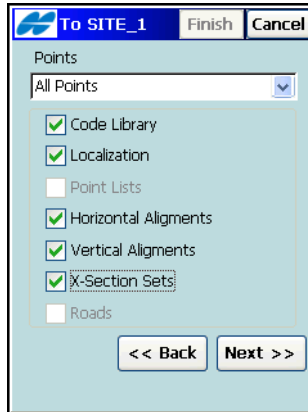

Figure 4-3. Export To Job
On the *To <Job name>* screen (Figure 4-3), select the data that you want to have exported along with the point data.
- **Next** – available if other data is chosen to export on the *To Job* screen (Figure 4-3 on page 4-3). Opens the next screen to select other objects (horizontal alignments, vertical alignments, roads or x-section sets) which are similar to the *Point List to Export* screen. Once the button becomes grayed out, tap the **Finish** button to start the export process.